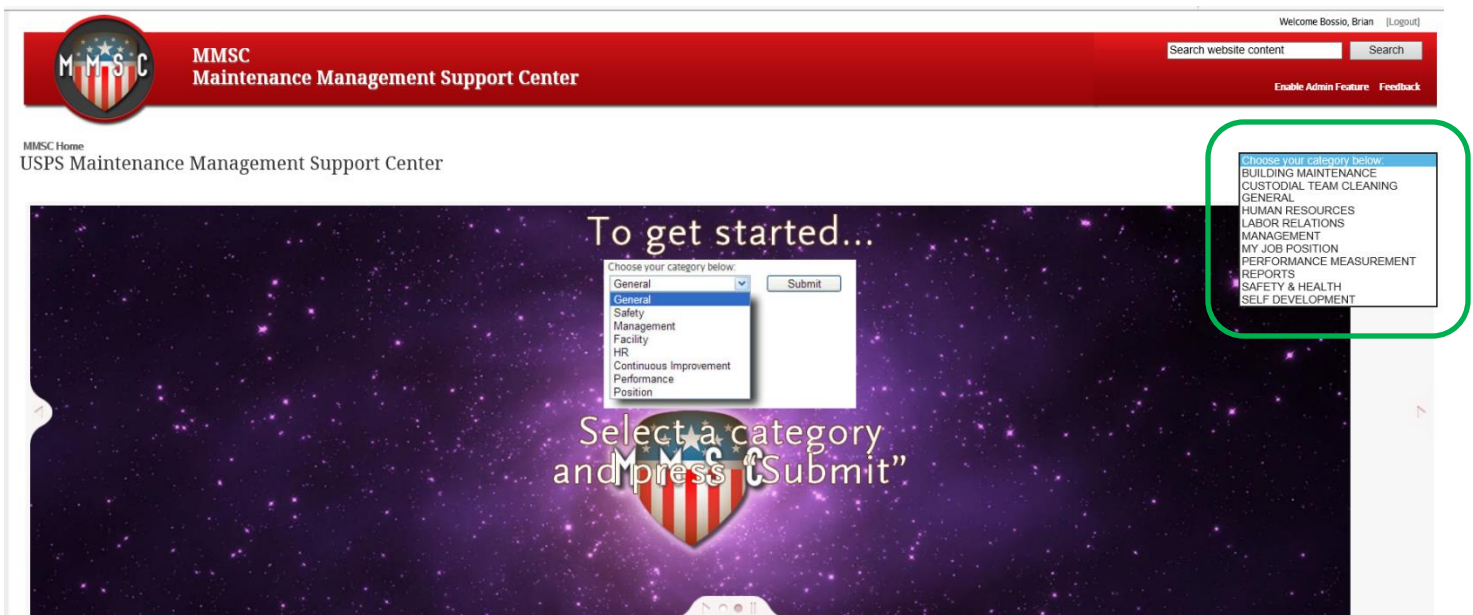

Figure 6. Choose Category
d. Click on **Choose Category** and then select **Custodial Team Cleaning** (Figure 6).